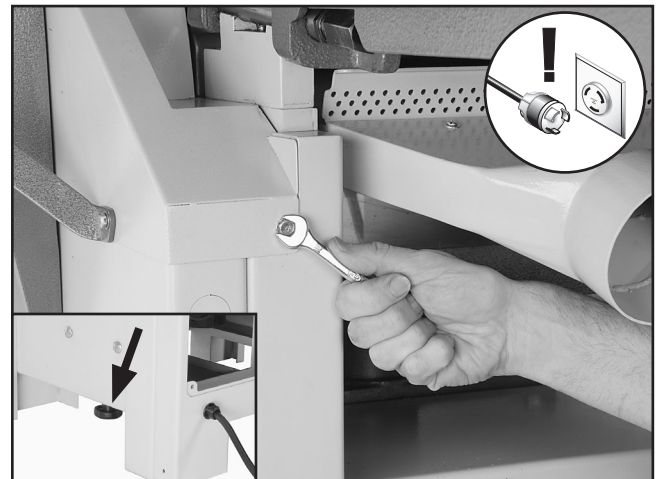

Figure 46. Removing bolts on V-belt cover and belt tension knob (inset).
2. Remove the four hex bolts securing the V-belt cover (see Figure 46).
3. Remove the fence and fence bracket, then remove the motor access cover and belt tension knob (Figure 46).